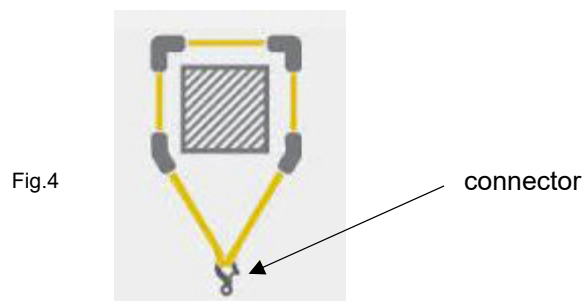

Fig.4
- ◆ Wrap the Temporary Anchorage Connector around the structural member as shown in Fig. 4.
- ◆ When properly attached to the anchorage the slings should hang freely with equal length legs. (Fig.4).
- ◆ Adjust the webbing so that the slings eyes are positioned under the center of the structural member. Pull down on the legs to remove slack, align eyes and secure the hitch with an appropriate connector (Fig. 4).